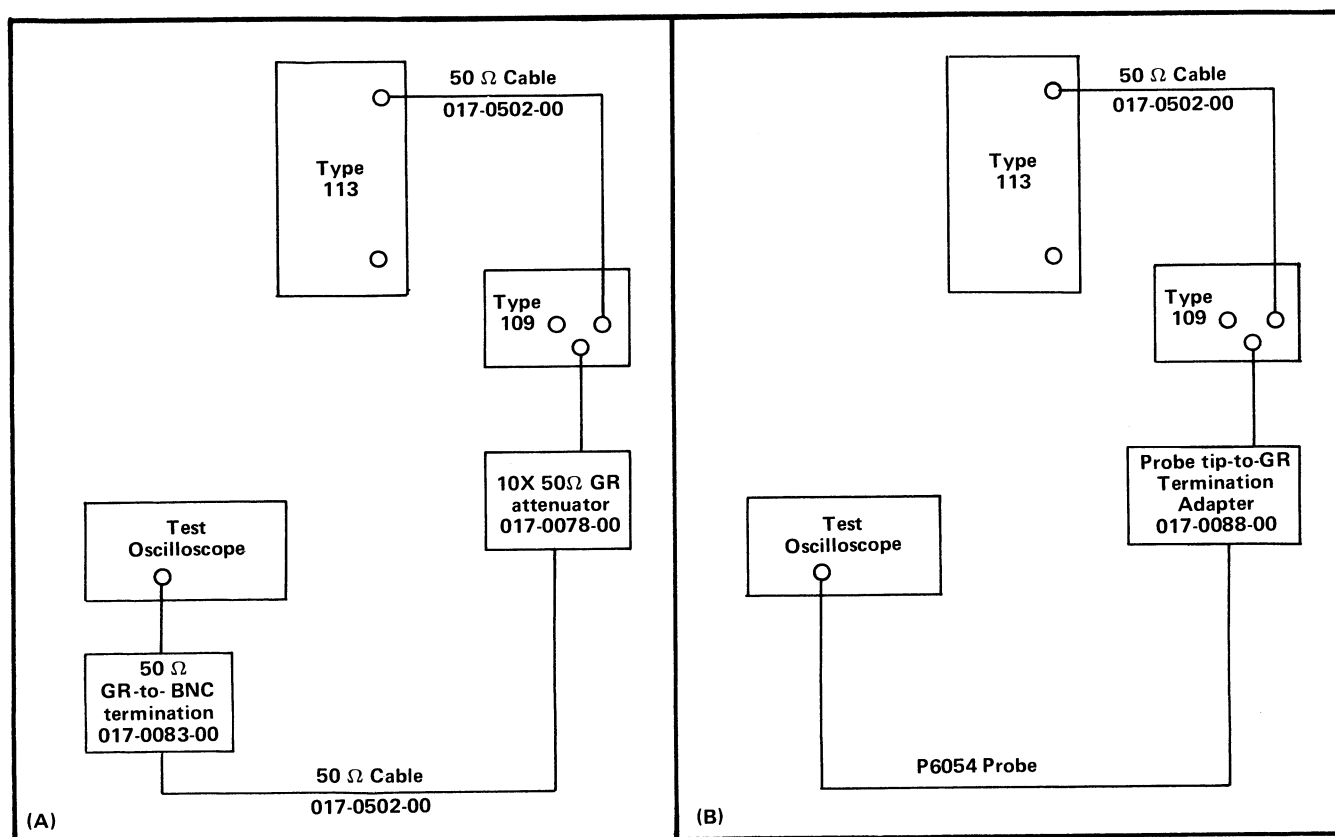

Fig. 4-3. Equipment setup for step 3.
a. Equipment setup is shown in Fig. 4-3(A).
h. Connect the probe tip to the 50 Ω Output of the Type 109, using a probe tip-to-GR termination adapter, 017-0088-00. See Fig. 4-3(B) for this setup.